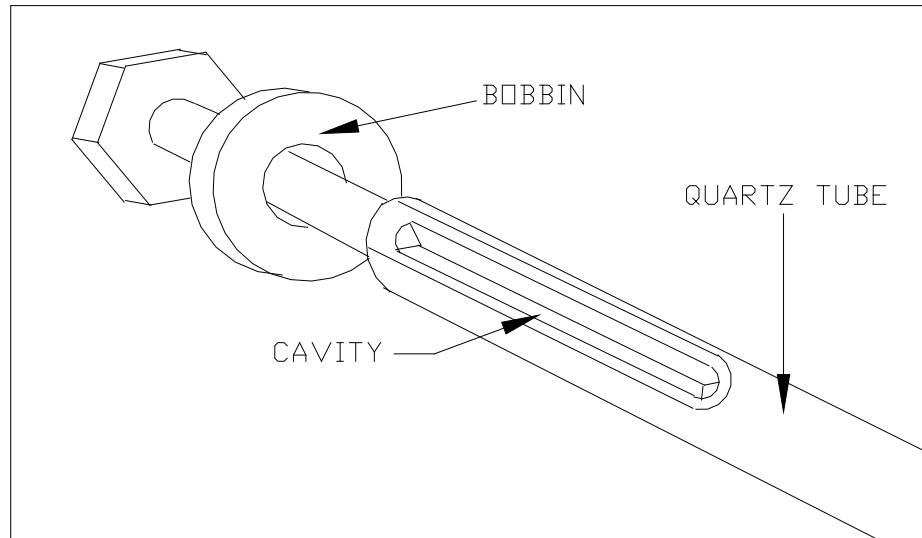

Figure 2-3. Quartz Tube Cavity for Thermocouple
10. In preparation for installing the new thermocouple, look into the end of the Heater Block. You will see that there is an indentation (cavity) in the fat part of the quartz tube. This is where the thermocouple you are installing will reside. Refer to Figure 2-3.